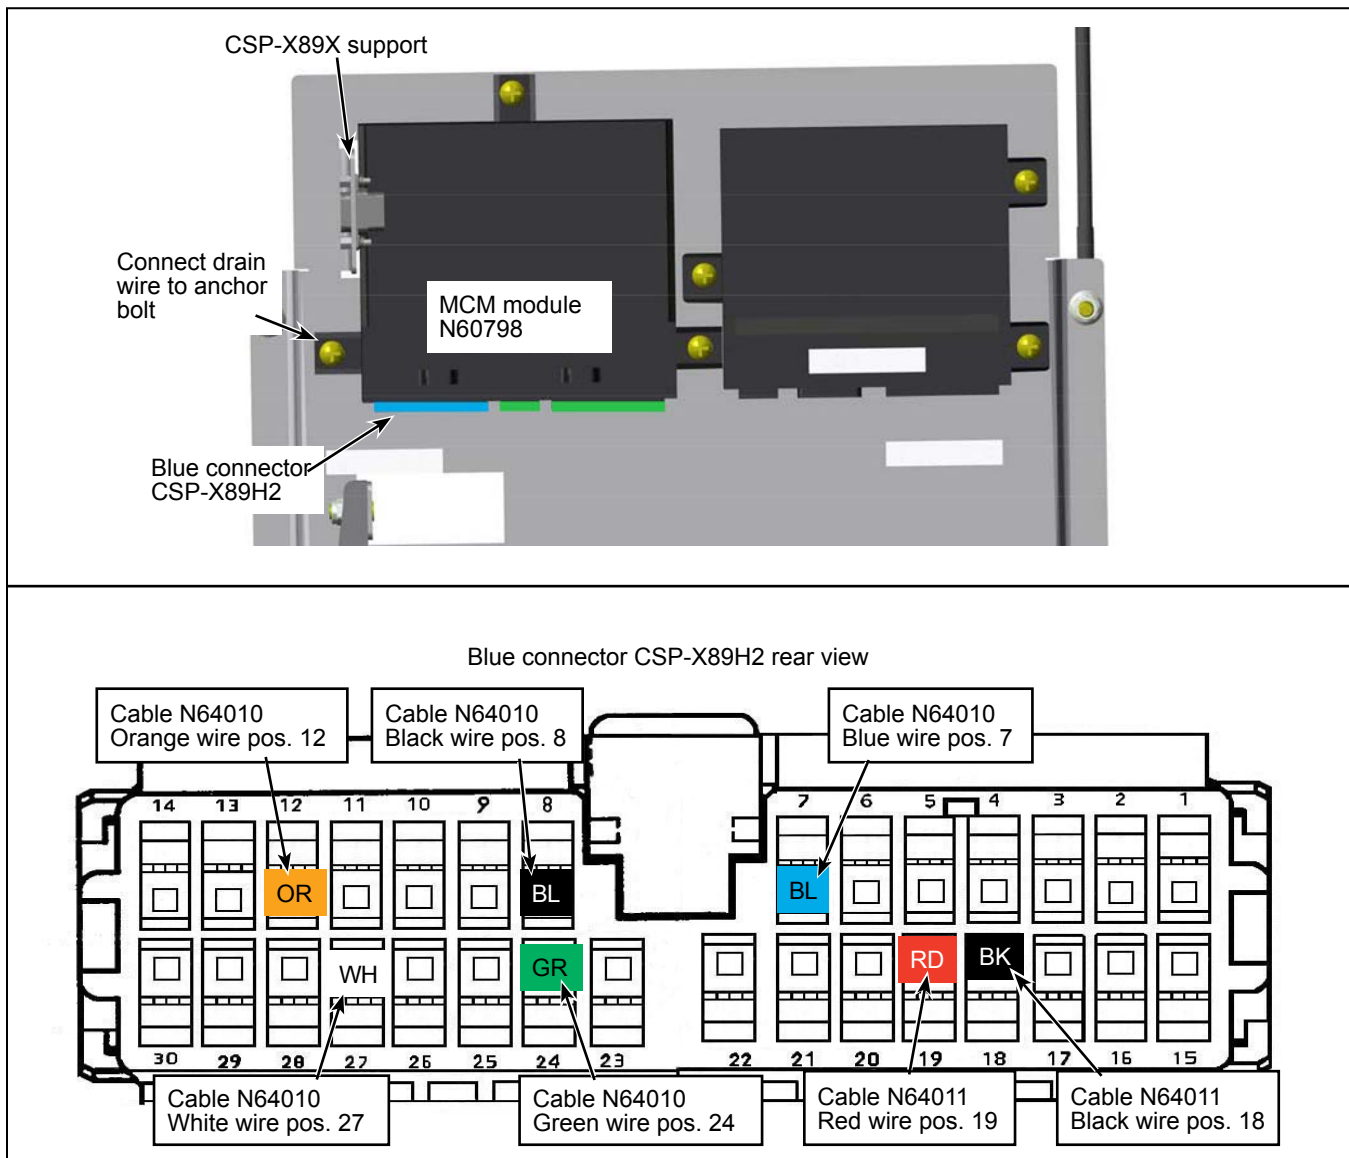

Figure 2 - Connection of Cable N64010 and N64011 to MCM Module
- 1.9. Route and connect cable N60809 to **CSP-X89X** connector support in the operator's control panel. Secure the cable with tie wrap along the routing. See Figure 2.
- 1.11. Connect cable N64010 to cable N60809 on **CSP-X89X** connector support in the operator's control panel. See Figure 2.
- 1.12. Disconnect the blue connector **CSP-X89H2** from the CECM module. See Figure 2.
- 1.13. Connect all colored wires (green, white, orange, blue and black) of cable N64010 in the connector **CSP-X89H2**. See Figure 2 for pin position.
- 1.14. Replace module CECM with new module MCM N60798, using the same hardware. See Figure 2.
- 1.15. Connect drain wire of cable N64010 to one of the anchor bolts on module MCM (N60798). See Figure 2.
- 1.16. Connect the black and red wires of cable N64011 in the blue connector **CSP-X89H2**. See Figure 2 for pin position.